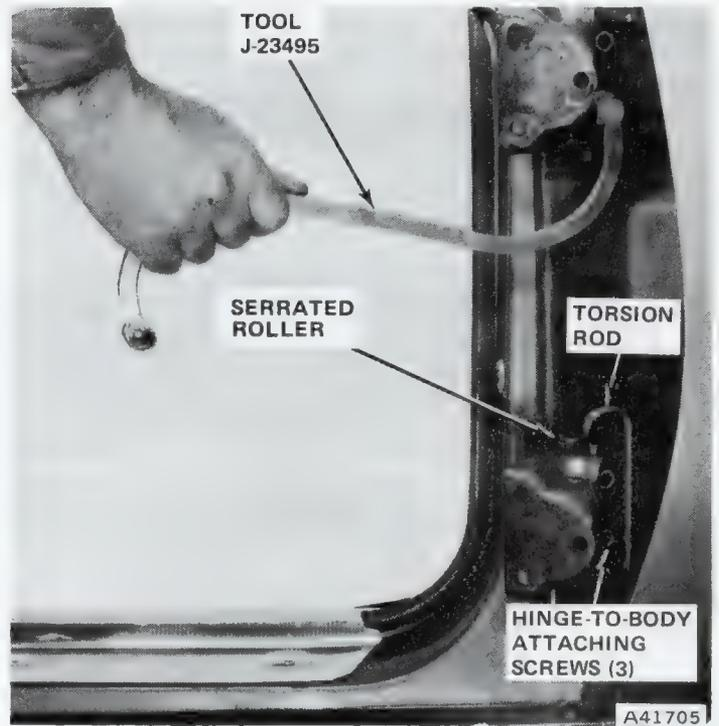

Fig. 3J-30 Front Door Adjustment—Gremlin-Concord-AMX (Door Removed for Clarity)
- (1) Remove lock striker.
- (2) Determine adjustment required.
- (c) If tilt or additional up or down adjustment is required, loosen hinge attaching screws on body pillar with tool J-23495 and move door to desired position (fig. 3J-30).
- (3) Install and adjust lock striker, tighten to 52 foot-pounds (70.1 Nm) torque.